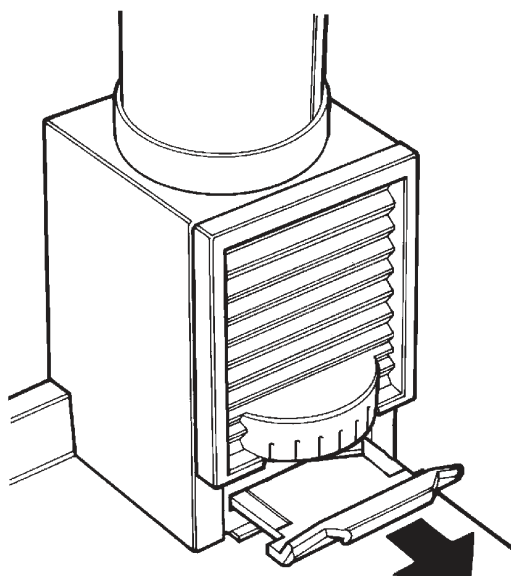

Fig. 4
7. Open flue chamber to maximum (Fig. 4).
6. Open flue chamber to maximum (Fig. 4).
Turn the pivoted dilution lever (on the bottom front flue chamber door) Fig. 4 from left to right hand side so that the door opens at the bottom and minimises the burning rate and chimney condensation.